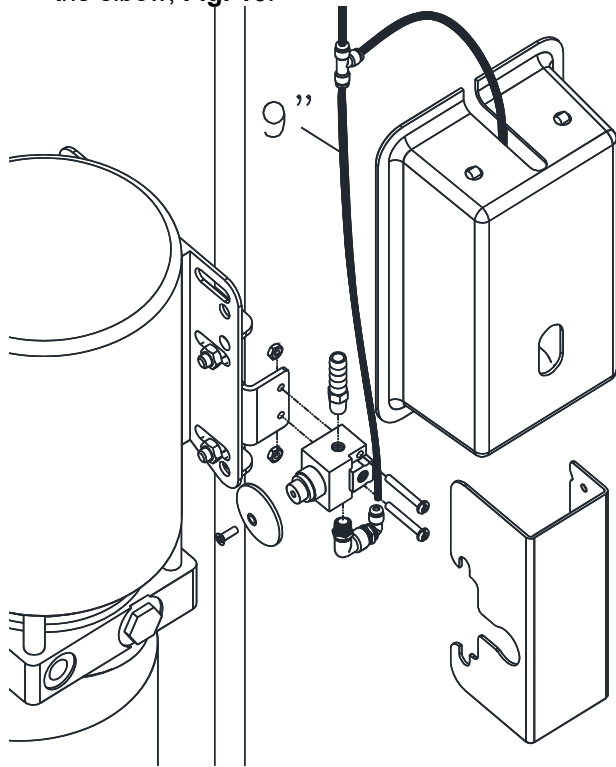

Fig. 16 – Cable Assembly
- 48) Assemble the fittings to the air valve, **Fig. 16**, with the barbed fitting (3/8" hose barb x 1/8NPT) in port marked "1", the elbow (1/8" push-lock x 1/8NPT) in port "2", and nothing in the center port "3" (exhaust). **Note: Barbed fitting in port marked "1" may be substituted with 1/8" NPT fitting suitable for the chosen compressed air supply method.**
- 50) Cut a piece of the 1/8" O.D. air line 9" long and use it to connect the bottom of the Tee fitting to the elbow, **Fig. 16**.
- 51) Cut to fit a piece of the 1/8" O.D. air line and use it to connect from the lock release air cylinder to the center of the push-lock tee fitting on the Power Column, **Fig 16**.